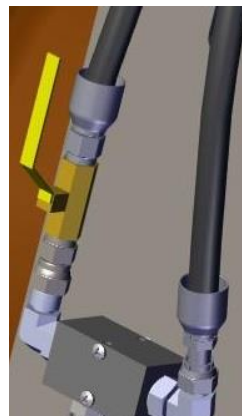

Figure 23
1. Shut off the air valve on the front side of the strut for the gauge wheel. Figure 23